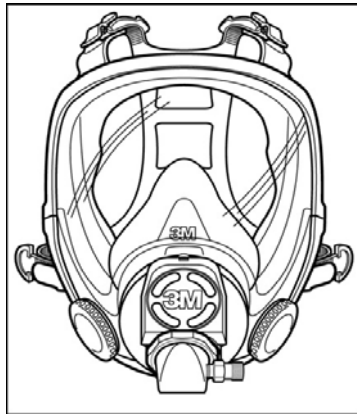

Fig. 7
1. Remove 3M™ Full Face Plug 7890 and screw in 3M™ Adapter W-3187 into center opening. (Fig. 7)